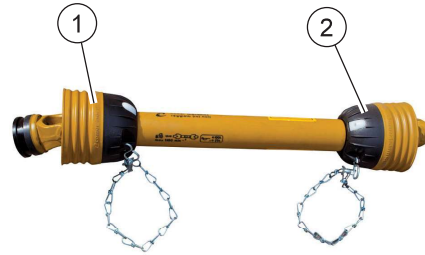

FIG. 21
- Guards on the PTO shaft tractor side (1, "Fig. 21") and machine side (2) including the restraining chains.